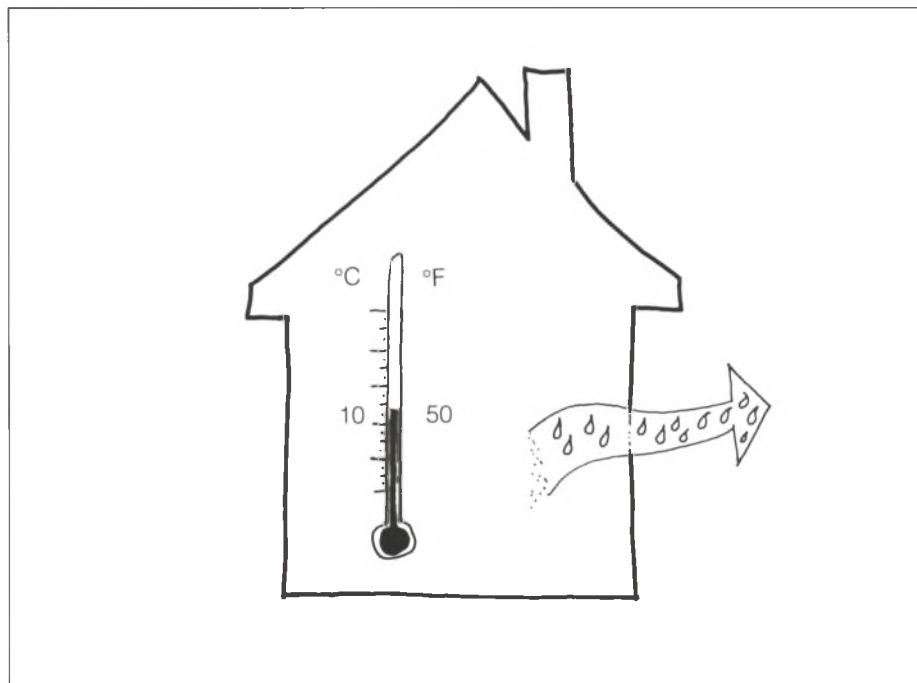

Fig. 20. Heat and ventilation requirements
- Maintain a minimum temperature of 10°C (50°F) for two days before and four days after treatment. Loss of bond will occur if temperatures are too cold (*fig. 20*).